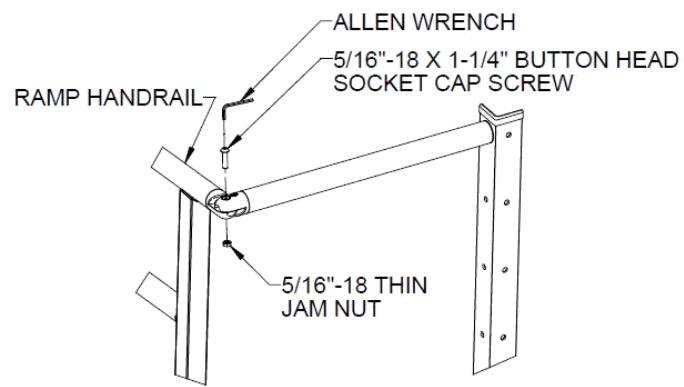

FIG. 5.4
- 5.4.5. Disassemble the adjustable elbow by removing the screw and nut (FIG. 5.4).
- 5.4.7. Reassemble elbow with the screw and nut (FIG. 5.4).
- 5.8.5. Disassemble the adjustable elbows by removing the screw and nut (FIG. 5.4).